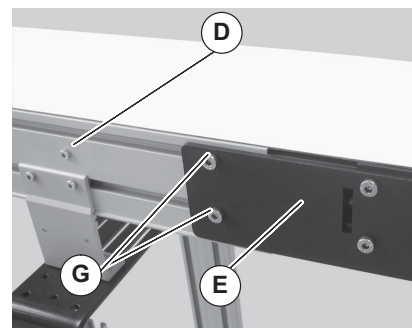
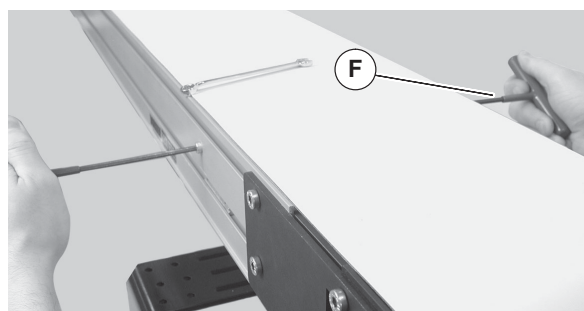

Figure 8
Figure 9
- On tension end of the conveyor, identified by the pinion locking screw (Figure 8, item D), loosen the two tail clamp bolts (G), on both sides of conveyor.
- With 5mm hex wrench, hold pinion torque screw (Figure 9, item F). Loosen the pinion locking screw (Figure 8, item D) and turn the pinion torque screw (F) to extend head plate assembly
- After adjusting proper tensioning, tighten the pinion locking screw (Figure 8, item D) a to 69 in-lbs (7.8 Installation End Stop for 3200 & LPZ Industrial Series Conveyors: Installation, Maintenance & Parts Manual Dorner Mfg. Corp. 5 851-534 Rev. B N-m), and tighten tail clamp bolts (Figure 8, item G) on both sides of conveyor to 146 in-lb (16.5 N-m).